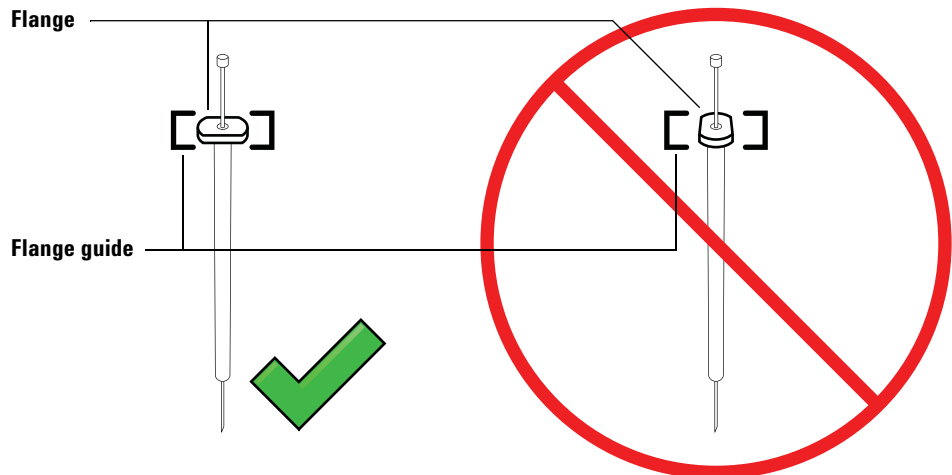

Figure 38 Syringe flange orientation
- 7 Align the syringe flange with the flange guide and press the syringe into place, keeping the needle end in the guide hole of the needle support foot. Make sure that the flat edge of the syringe flange faces out (Figure 38).